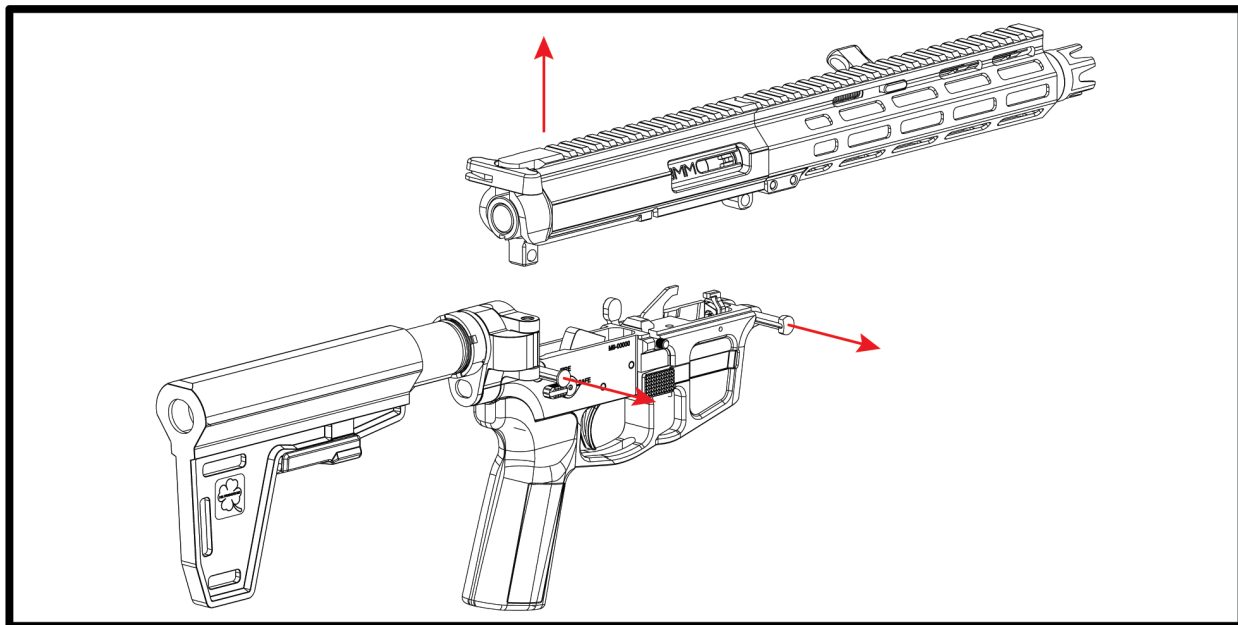

FIGURE 6.3 - Separate the upper receiver from the lower receiver
4. Separate the upper receiver from the lower receiver as appropriate. (FIGURE 6.3)